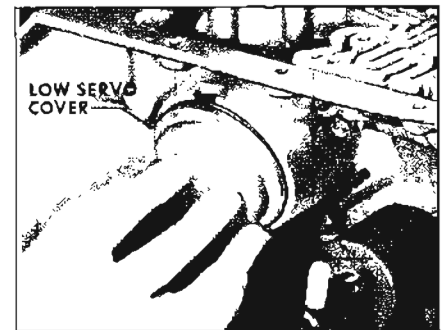

Figure 5-312
3. Install low servo cover to case. See Figure 5-312.